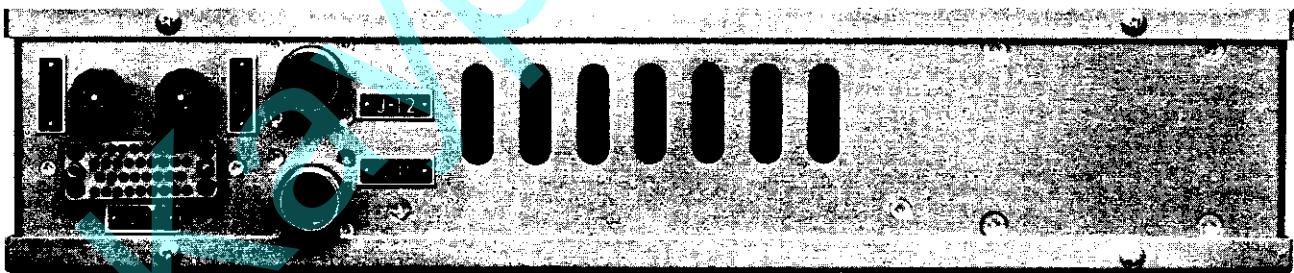

Figure 3-3. Converter, Rear View.
3. Connect the AC or DC input signal to J-11 at the rear of the converter. See Figure 3-3.